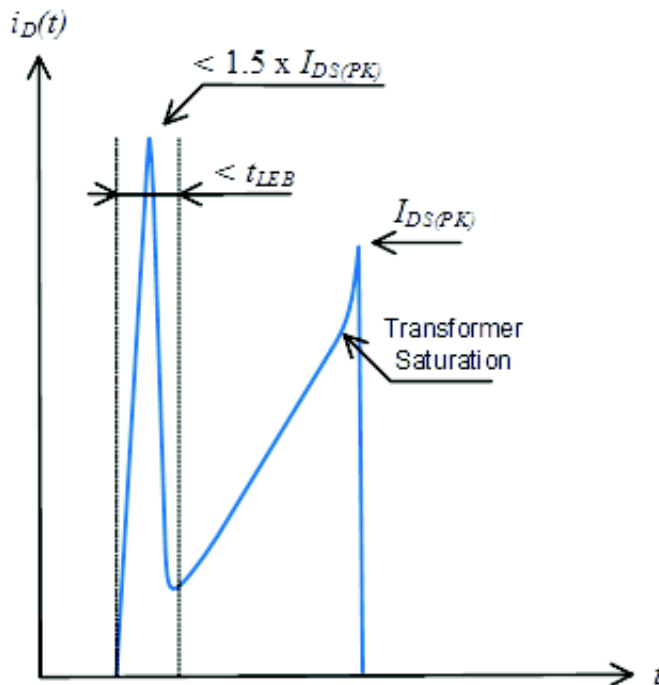

Figure 4. Spike Limits
- Maximum drain current I_{DS(PK)} is obtained when the transformer saturates. It should not be mixed with short pulses that can be seen at turn on. Figure 4 below provides spike limits the device can tolerate.